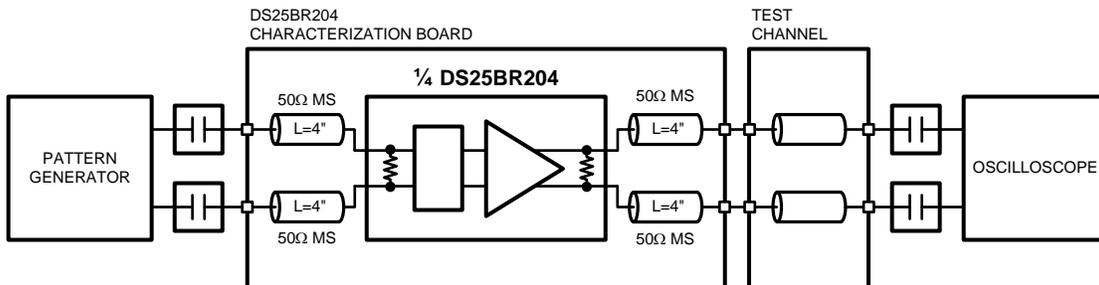
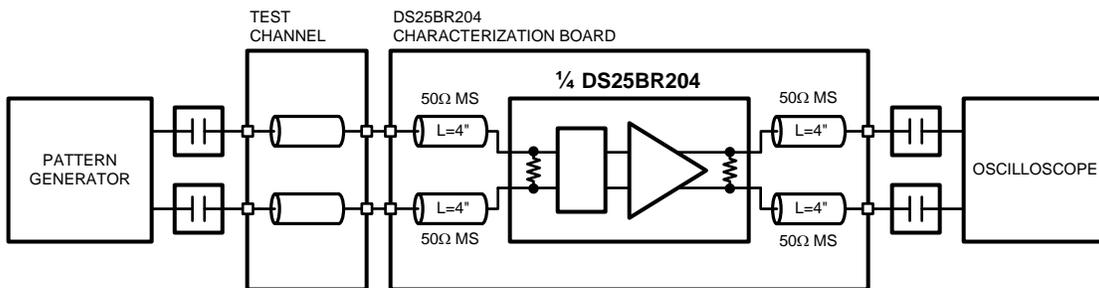
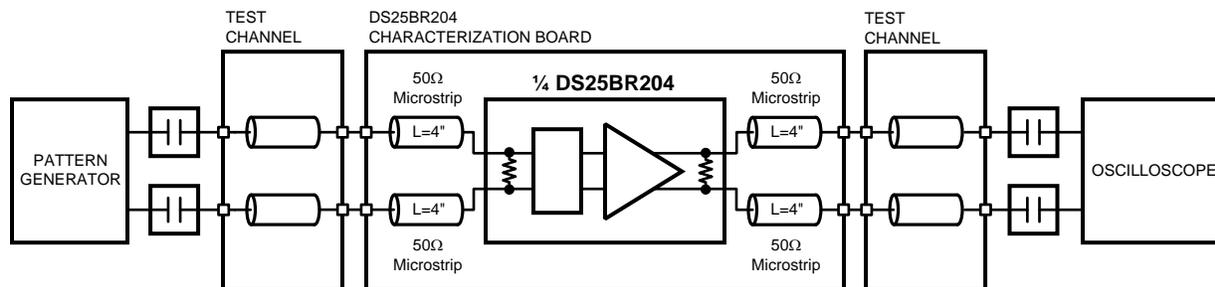
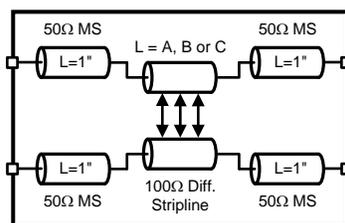

Figure 6. Pre-emphasis Performance Test Circuit
Figure 7. Equalization Performance Test Circuit
Figure 8. Pre-Emphasis and Equalization Performance Test Circuit
Figure 9. Test Channel Block Diagram
| JITTER PERFORMANCE WITH EQ = Off, PE = On (3) (Figure 6, Figure 9) |                                                                     |                                                                      |            |      |      |                   |
| JITTER PERFORMANCE WITH EQ = On, PE = Off (3) (Figure 7, Figure 9) |                                                                     |                                                                      |            |      |      |                   |
| JITTER PERFORMANCE WITH EQ = On, PE = On (3)(Figure 8, Figure 9) |                                                                                             |                                                                   |            |      |      |                   |